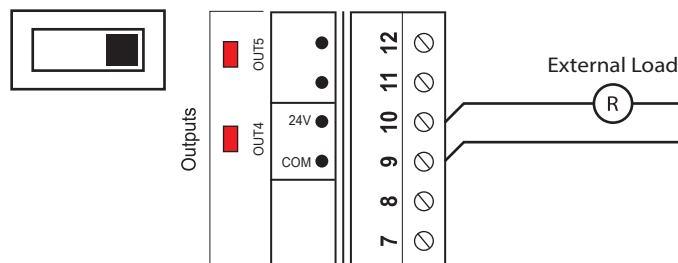

Figure 12 - Connection of Active Outputs 3 and 4
1) Active output (SOURCE). The C1000 is actively powering the load. (see Figure 12)